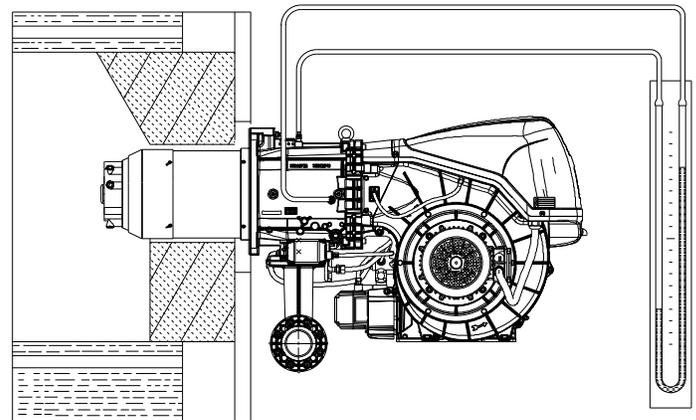

Fig. 36
- Fit a U-type manometer (Fig. 36) to the gas pressure test point on the sleeve. The manometer readings are used to calculate MAX. burner power using the Tab. N on page 30.